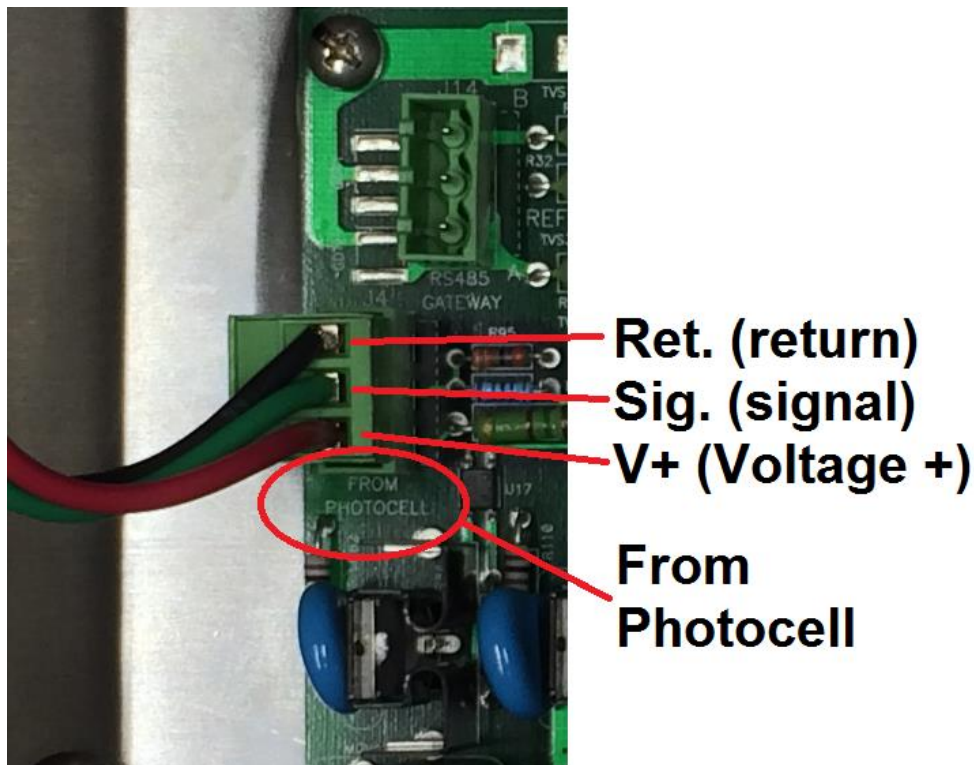

Figure 5– Photocell Connections
- Attach output of Photocell to controller, Figure 5
5. Repeat connections to the Controller PCB J4 respectively. (figure 5)